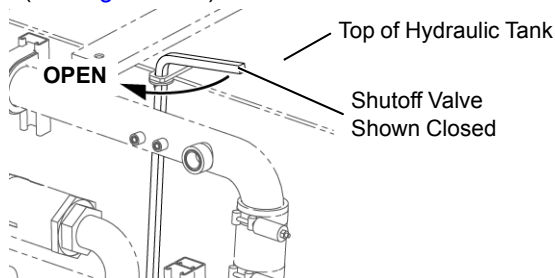

FIGURE 3-16
2. Make sure that the hydraulic tank shutoff valve is open (see Figure 3-16).